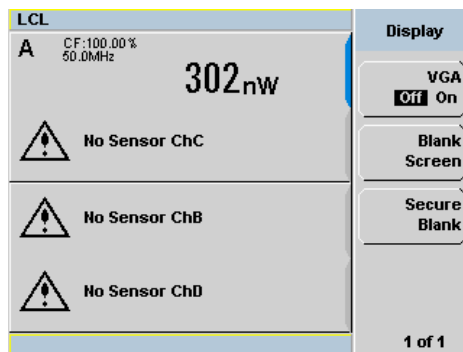

Figure 3-60 VGA toggle ON/OFF
- 3 Press **Display** to toggle ON/OFF the VGA feature (see Figure 3-60).